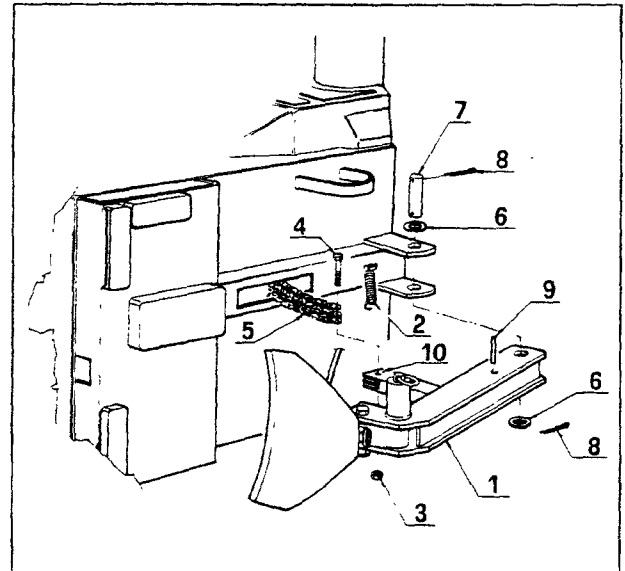

Fig.6/a
I. Mount the bead breaker arm #1 (Fig.6/a) on the cabinet, with the pin #7 and washers #6. Lock the pin #7 with the cotter pins #8.